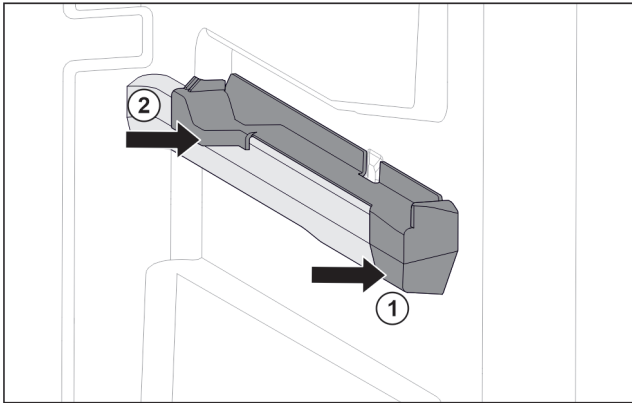

Fig. 57 Attachment on the right moulded rib
- ▶ Position attachment on moulded rib at the front. Fig. 57 (1)
- ▶ Press on attachment at the back. Fig. 57 (2)